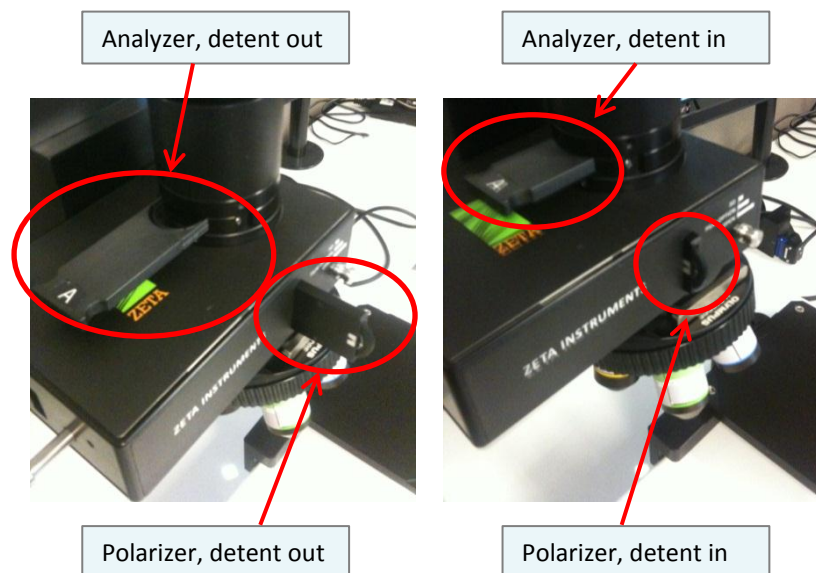

Fig. 38. Analyzer installed into left side of head
1. Install the polarizer into the slot in the front of the optical head, but leave it in the detent out (partly pulled out) position, as shown in Fig. 38. The dot on the rotating dial should be positioned in front of the arrow on the sleeve.
2. Install the analyzer into the slot on the left side of the optical column but leave it in the detent out position, as shown in Fig. 38.